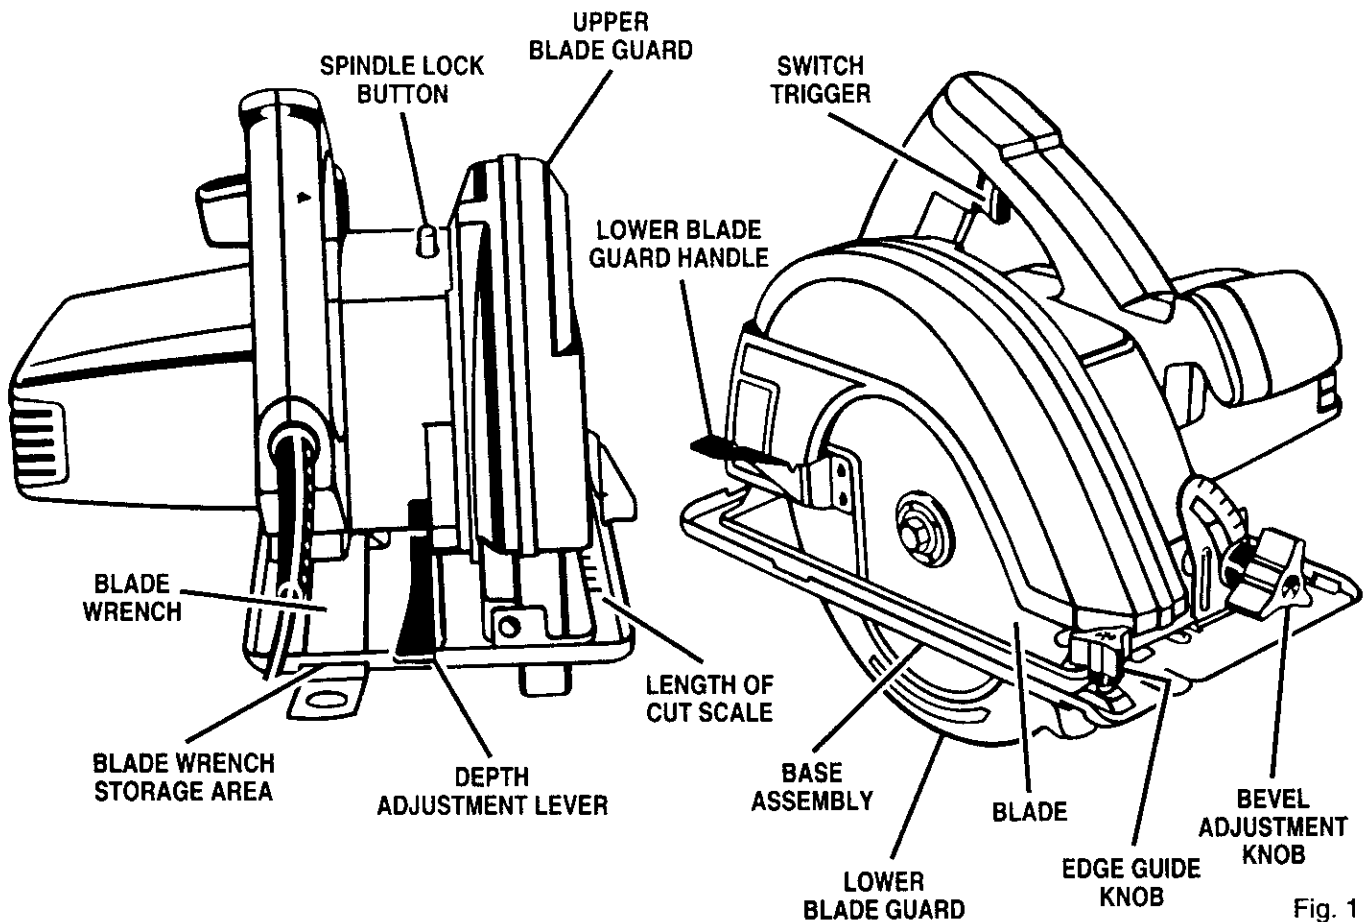

Fig. 1
See Figure 1.
- Remove blade wrench from storage area. See Figure 1.
- Return blade wrench to storage area. **Note:** Always place angled portion of blade wrench up as shown in figure 1.